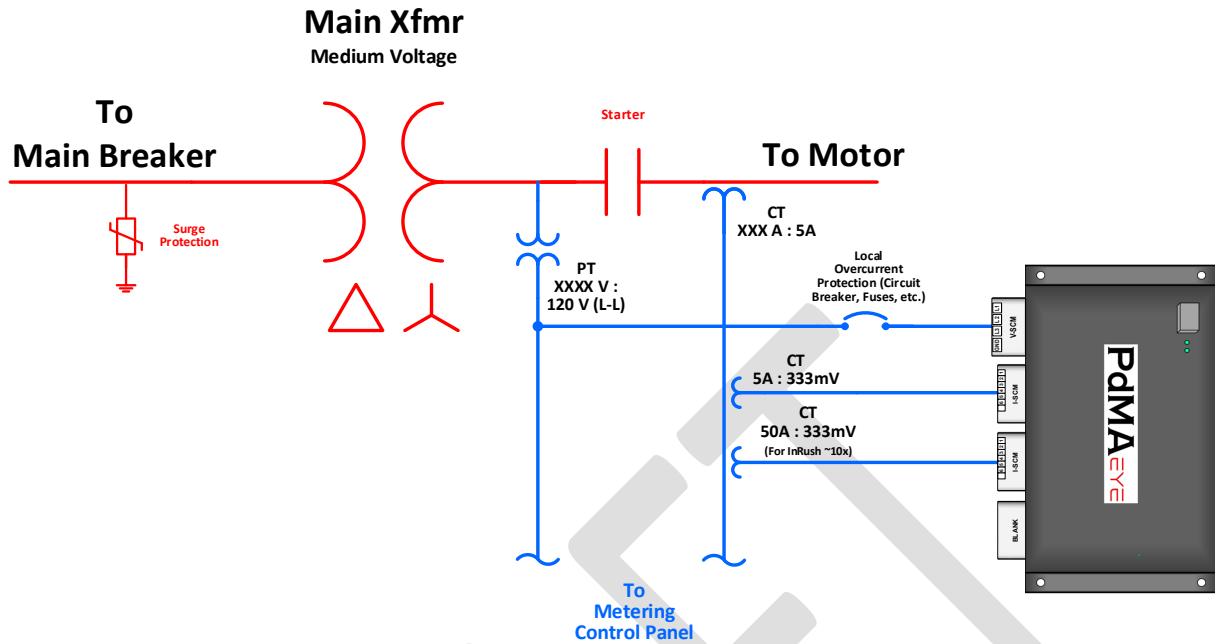
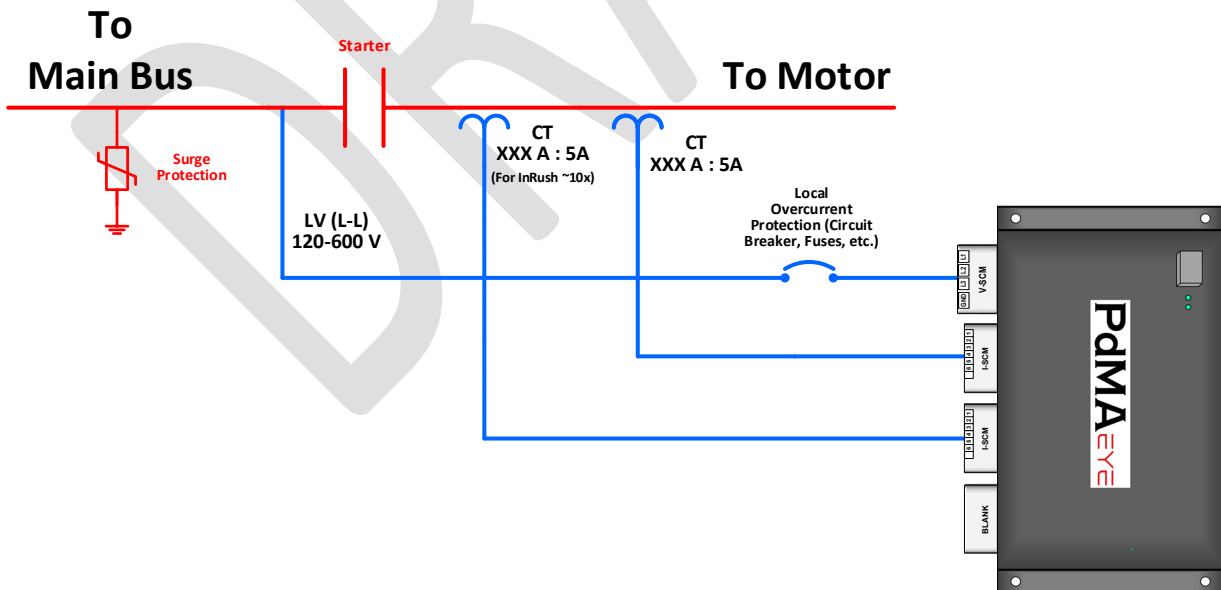

Figure 5 – Recommended general location of connections in a Medium Voltage Motor Circuit (Example)
Figure 6 - Recommended general location of connections in a Low Voltage Motor Circuit (Example)
7. Use either Figure 5 for a Medium Voltage Circuit or Figure 6 for a Low Voltage Circuit, as a guide to determine where in the Motor Circuit to connect the PdMAEYE.
Consult your facility engineering team to determine the appropriate location to connect the PdMAEYE using either Figure 5 for a Medium Voltage Circuit or Figure 6 for a Low Voltage Circuit, as a guide to determine where in the Motor Circuit to connect the PdMAEYE. Consideration should be given to Offline testing as well as Online testing.